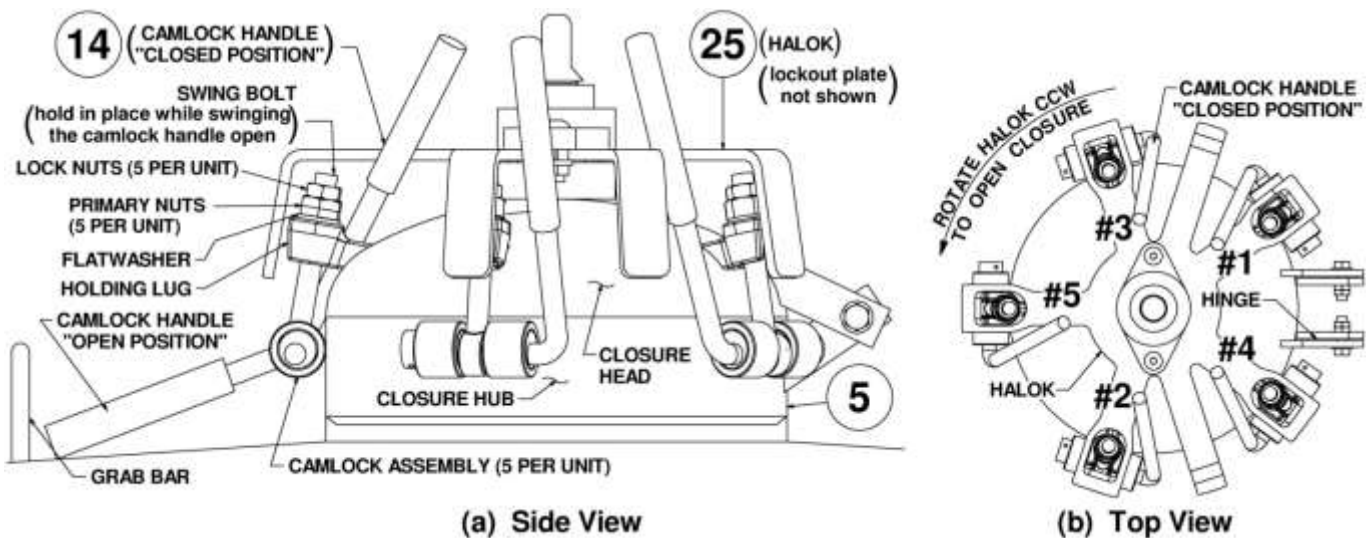

Figure 6.3.2 – Bulk Abrasive Blaster Closure Assembly
- 6.3.5. With all the camlock handles (#14) in the “open” position the Halok can be rotated counterclockwise to allow access to the swing bolts (see Figure 6.3.2). Manually swing each swing bolt out over the holding lug.
6.3.7. Each time the closure assembly is opened all the camlock assemblies and hinge assemblies must be inspected for damage, including but not limited to, corrosion, cracks, and deformations. Make sure all the swing bolts, nuts, washers, cams, spring pins, and handles are in place (See Drawing 9.3(a)). Inspect the threads of each swing bolt and (2) nuts for corrosion or wear. Each camlock assembly and hinge must be tested for ease of operation. Any camlock, swing bolt, nut, or hinge that show signs of damage, corrosion, wear, or does not swing freely must be repaired or replaced *before* re-pressurizing the blast vessel. The camlock handles must be installed into the cam lugs as shown in Figure 6.3.2(b) so there is no interference with closure head handle or hinges and to ensure proper operation of the closure Halok® (#25). The torque on the camlock assembly nuts must be properly adjusted. See Sections 8.4 and 8.5 for closure assembly maintenance instructions and adjustment procedures.